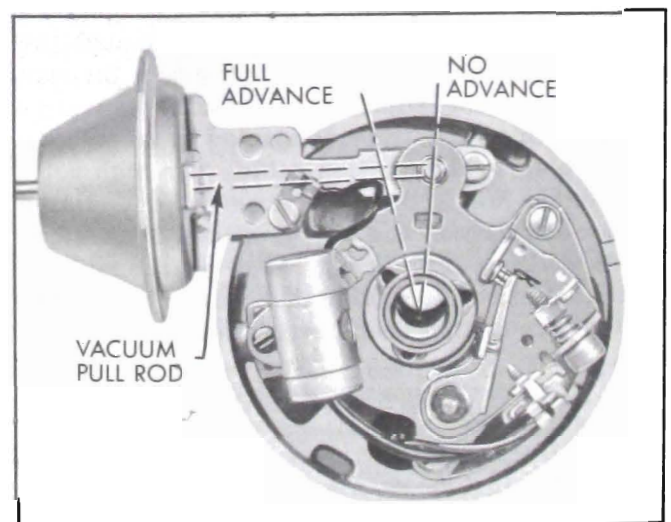

Figure 10-30—Vacuum Advance Mechanism
3. Vacuum Advance is governed by manifold vacuum. The contact point set is mounted on a breaker plate which is located below the centrifugal advance mechanism and uses the outer diameter of the upper shaft bushing for its bearing surface. The movable breaker plate is held in position on the upper shaft bushing by a retainer. The vacuum unit is mounted on the distributor base and under the movable breaker plate so that the breaker plate can be rotated around the distributor cam by a link from the vacuum unit. See Figure 10-30.